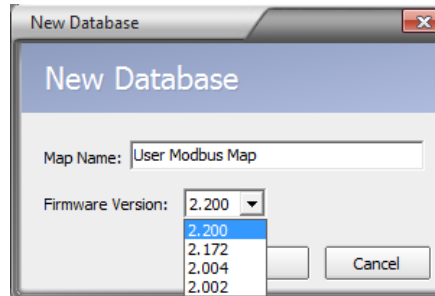

Figure 4.2—New Database dialog
1. Choose **File>New Database**. The *New Database* dialog will appear (Figure 4.2).